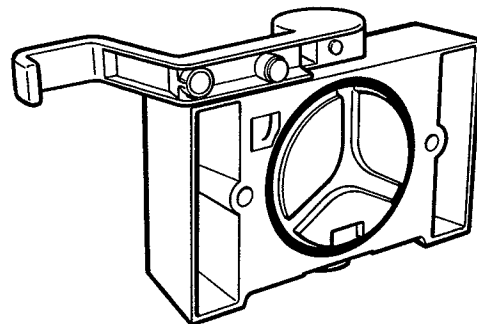

Figure 40. Front Door "O" Ring Installation
- C. Install large "O" ring into groove in back of front door. Apply a **thin** film of sanitary lubricant to "O" ring. (See Fig. 40.)